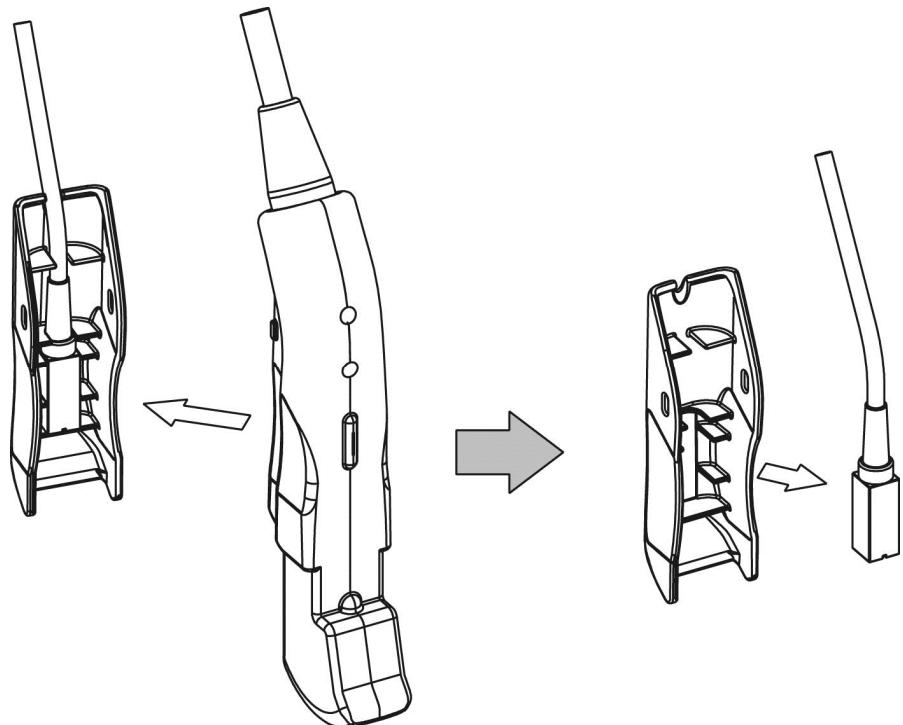

Fig. 9 How to release the Magnetic Sensor from the groove of the probe
- 2) Release the Magnetic sensor from the groove of the attachment as shown in Fig. 9.